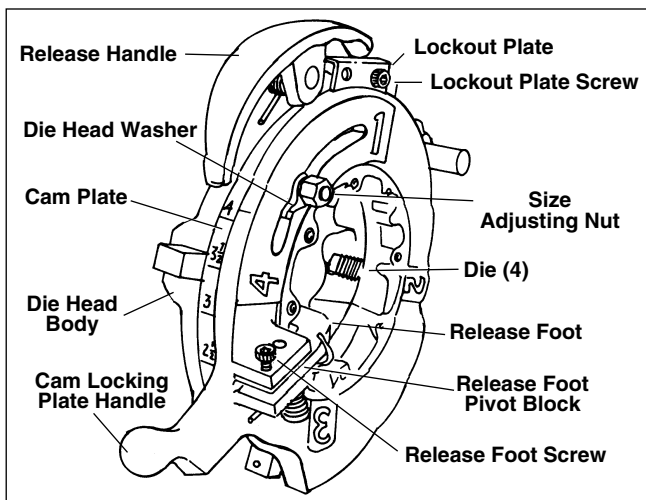

Figure 12 – Know Your 714/914 Die Head
10. At end of cut, receding mechanism will automatically open dies. (See Figure 12.)
(*Figure 12*)